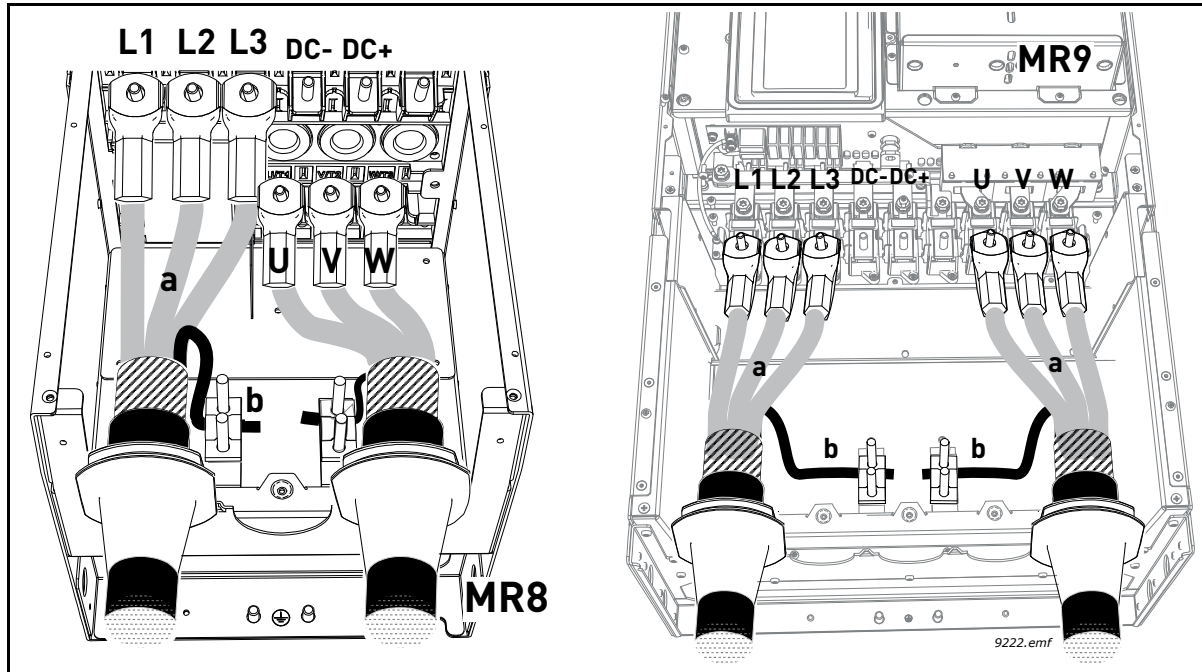

Figure 34.
- Form the rest of the cable shield of all cables into “pigtailed” and make a grounding connection as shown in Figure 34 (b) using the clamp from the *Accessories bag*.